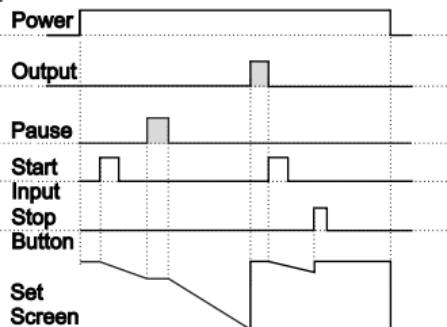

Figure 4.2
4.1.2 If Downcount `dEct`=1 and `outF` is `oFF` the control diagram is shown in Figure 4.2